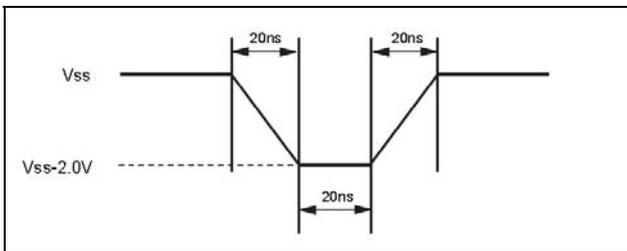

Figure 2. Maximum Negative Overshoot Waveform
- During voltage transitions, all pins may overshoot Vss to -2.0V and Vcc to +2.0V for periods up to 20ns, see Figure 2, 3